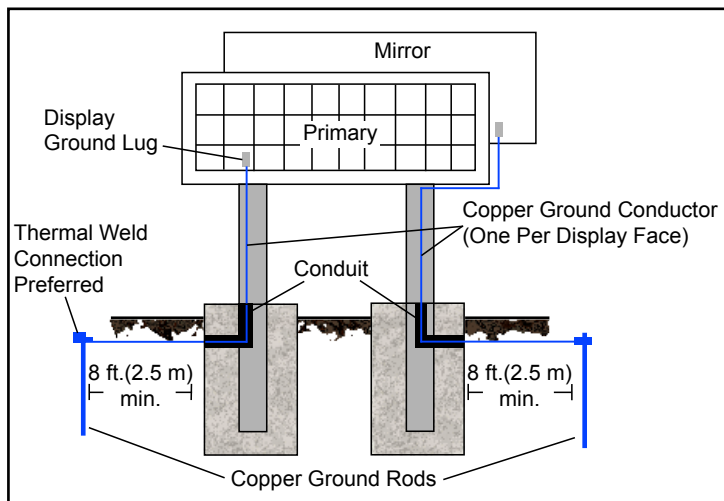

Figure 11: Proper Display Grounding
1. Install an earth-ground electrode (ground rod, ground plate, etc.) near the base of the display. Refer to **Figure 11** for guidelines. **Note:** Each display face requires an earth-ground electrode.